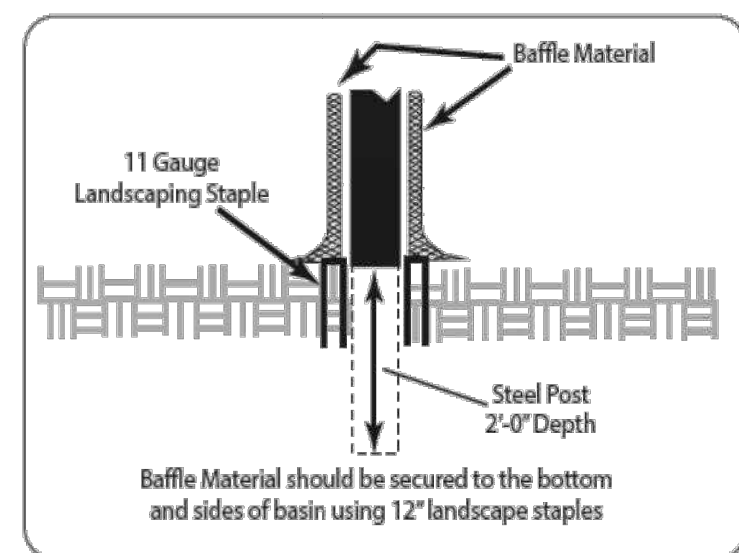

Figure 6.65b Coir Fiber Baffle Detail
Baffles need to be installed correctly in order to fully provide their benefits. Refer to Figure 6.65b and the following key points:
- EXTEND 9 GAUGE MINIMUM HIGH TENSION WIRE STRAND TO SIDE OF BASIN OR INSTALL STEEL T-POSTS TO ANCHOR BAFFLE TO SIDE OF BASIN AND SECURE TO VERTICAL END POSTS AS SHOWN IN FIGURE 6.65B.